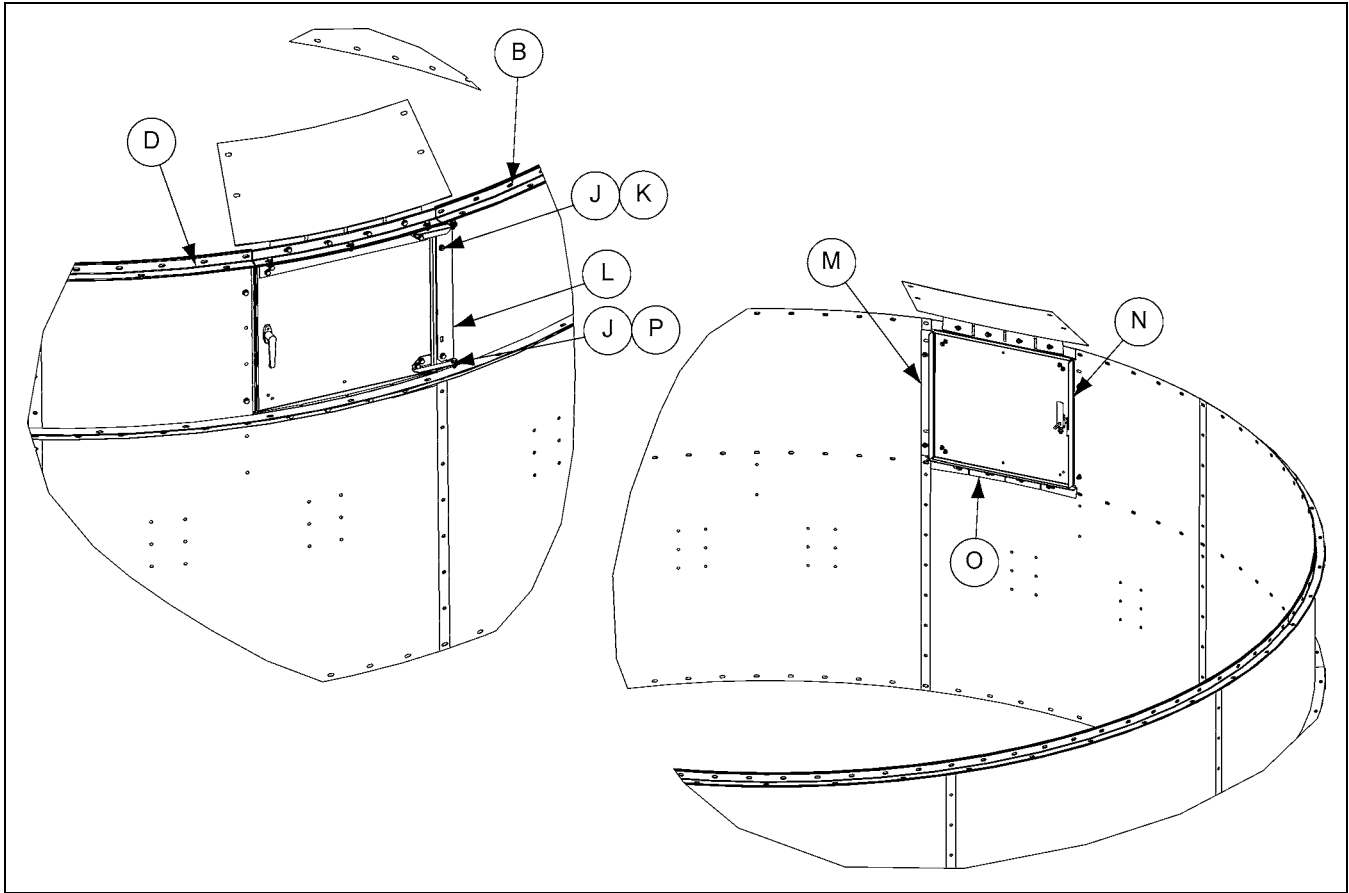

Figure 2C
4. Install the hinge bracket (L) to the outside of the burner can and the door bracket (M) to the inside of the burner can at the door opening at the same time using bolt (J) and nut (K).
5. Install the side bracket (N) and the bottom flashing (O) to the door opening using bolt (J) and nut (K).
6. Assemble door assembly to the door hinge (L) using bolt (J) and nut (P). *(See Figure 2C.)*